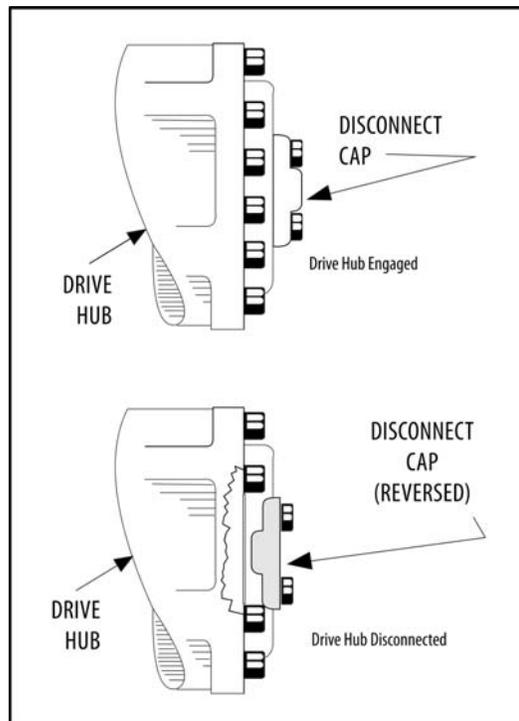

Figure 4-8. Drive Disconnect Hub
3. Disconnect drive hubs by inverting disconnect cap. Refer to Figure 4-8., Drive Disconnect Hub.